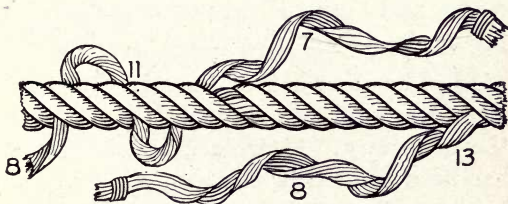

Figure 12
10. The half of the strand 7 is now laid in three turns and the half of 8 also laid in three turns. The half strands now meet and are tied in a simple knot 11 (Fig. 12), making the rope at this point its original size.